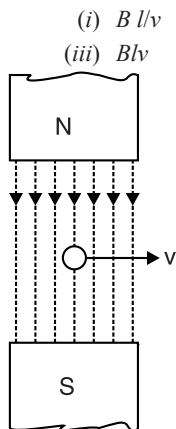

Fig. 9.45
10. In Fig. 9.45, 1 single conductor of length *l* metres moves at right angles to a uniform field of *B* Wb/m2 with a velocity of *v* m/s. The e.m.f. induced is .....